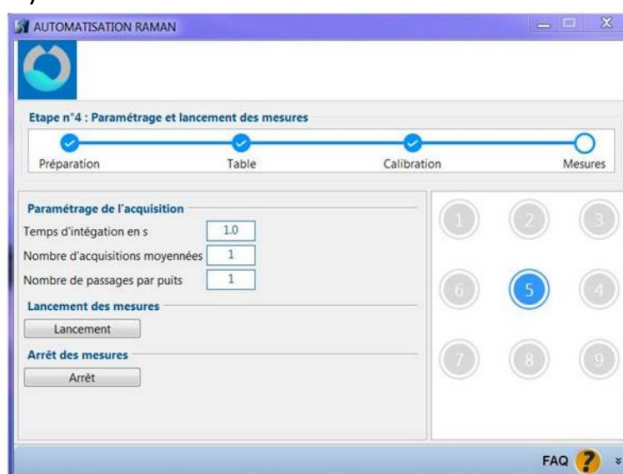

Figure 43. API software. Measure
26. Press "Launch" (Lancement) to start the automated spectroscopic measurements of the chosen samples (Figure 43).